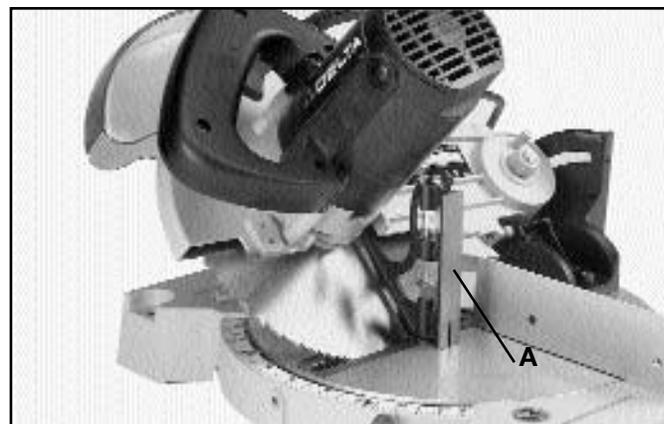

Fig. 23
7. Using a combination square (A) Fig. 23, check to see if the blade is at 45 degrees to the table, as shown.